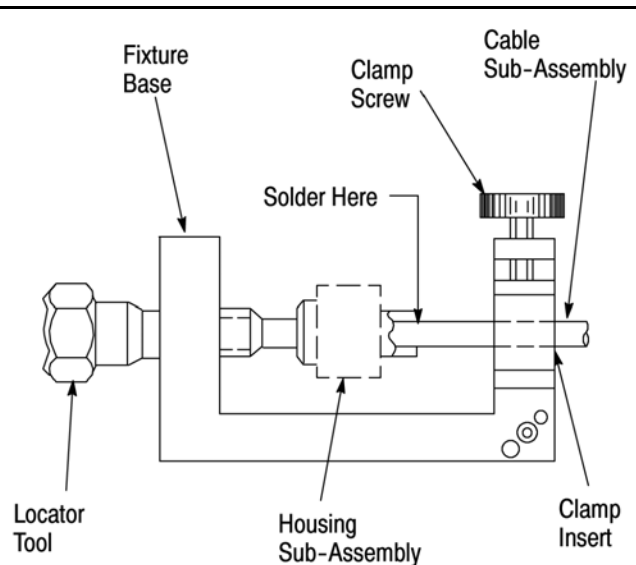

Figure 5
2. Loosely place the assembly in the fixture base as shown in Figure 5.